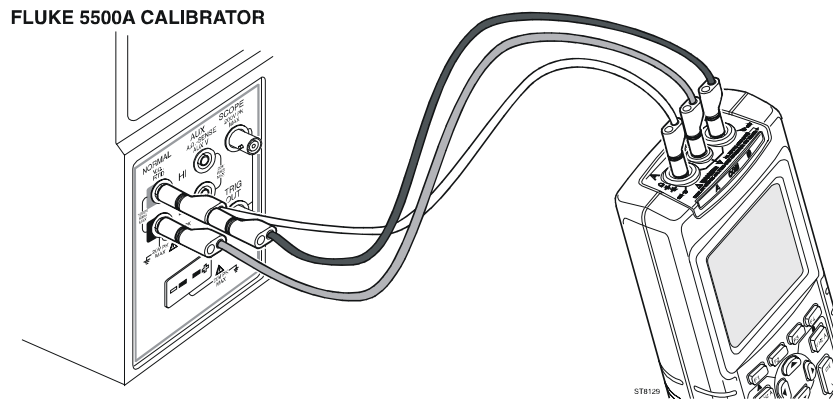

Figure 5-6. Volt Gain Calibration Input Connections 500V
10. Connect the test tool to the 5500A as shown in Figure 5-6.